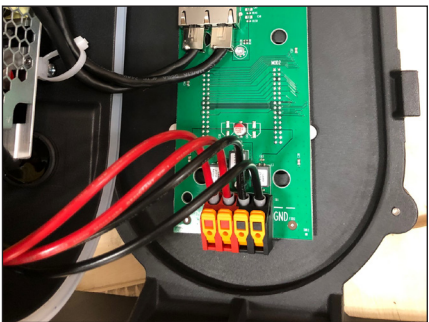

Figure 7: Disconnect Cat 6 Cables from RJ45 Jacks
3. Disconnect the Cat 6 cables from the RJ45 jacks on the hub board. Refer to **Figure 7**.